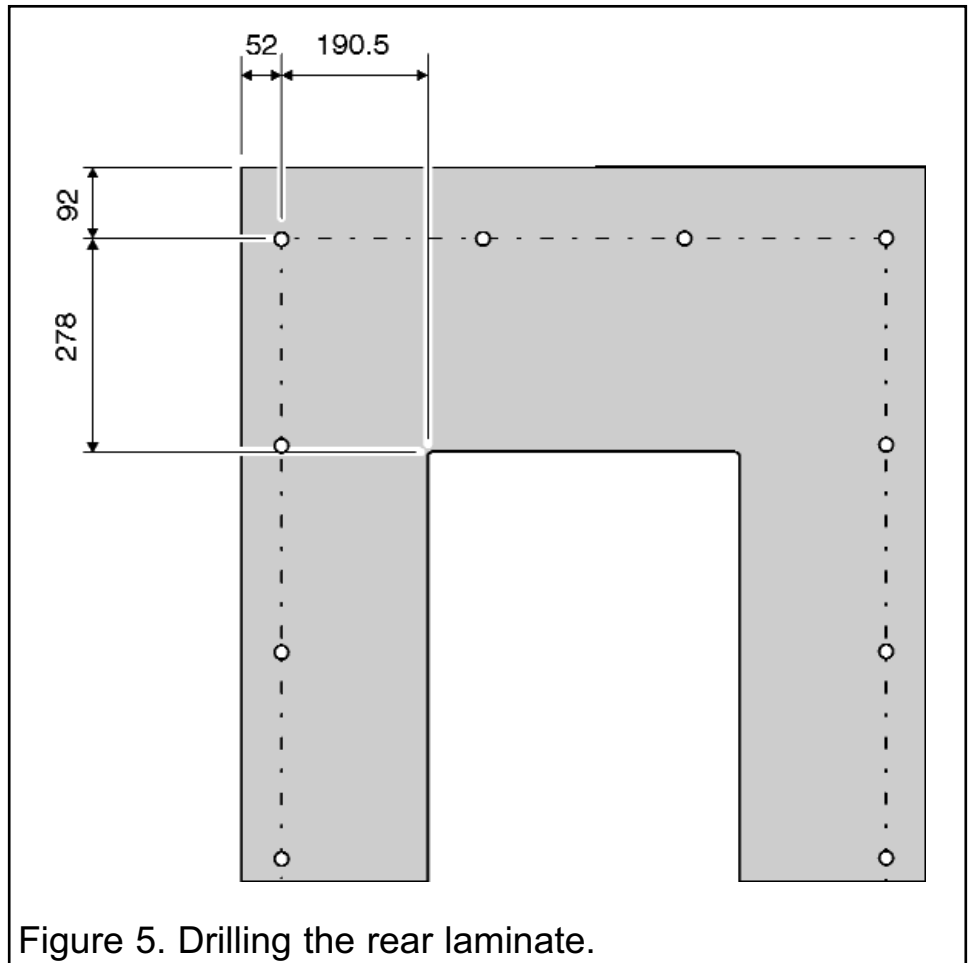

Figure 5. Drilling the rear laminate.
- The rear laminate fixing holes will have to be drilled in the range of positions shown in figure 5 using a 4mm drill bit. We recommend using 10 (E) screws for strength.
- Decide which side of the laminate (F) will face forward and offer it to the rear of the assembled surround / mantle and position centrally.
- Screw the Laminate to the surround using 10 screws (E).